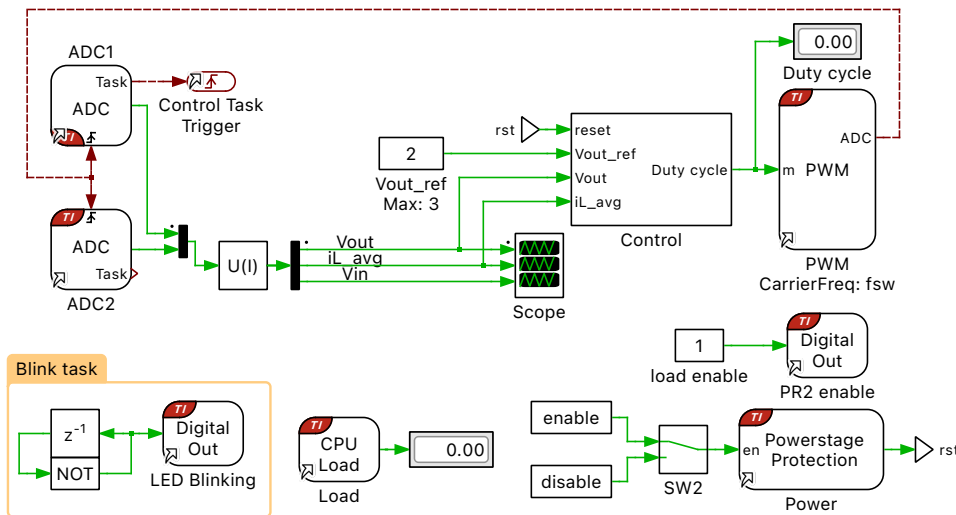
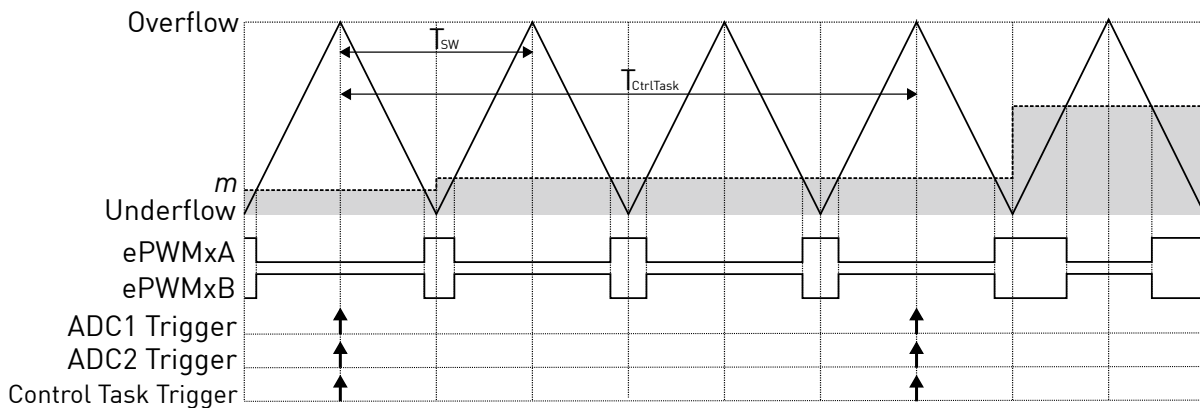

Figure 3: Controller of the BOOSTXL-BUCKCONV BoosterPack
Figure 5: PWM carrier, ADC and task interrupts
The controller subsystem is shown in Fig. 3. The key interface signals between the BOOSTXL-BUCKCONV, RT Box and the supported TI LAUNCHXL evaluation boards are described in Table 1.
- Control Task Trigger** In this model, the interrupt sequence of the embedded application is defined explicitly by connecting trigger signals between the PWM generator, the ADC, and the Control Task Trigger. Trigger signals are shown as red dashed lines as seen in Fig. 3. From the **Events** tab of the PWM block parameter window, the **ADC trigger** parameter is configured as **Overflow**, and the **ADC trigger divider** is set to 3 for the TI2837x and the TI28P650x, and 6 for the TI28004x and the TI28P550x MCUs. This means that the ADC start-of-conversion is triggered after set number of Overflow events. Fig. 5 shows the corresponding PWM carrier, ADC and task trigger, and PWM outputs for an **ADC trigger divider** set to 3.
By default, the C2000 target support package will only update the ePWM duty cycle register on PWM underflow and overflow events to prevent data corruption. In Fig. 5, note the delay between the task trigger and the instant when the duty cycle, m , is updated in the ePWM module. The control task is triggered by the ADC end-of-conversion, then the modulation index will update on the next underflow event after all ADC channels are converted and the control task is completed.